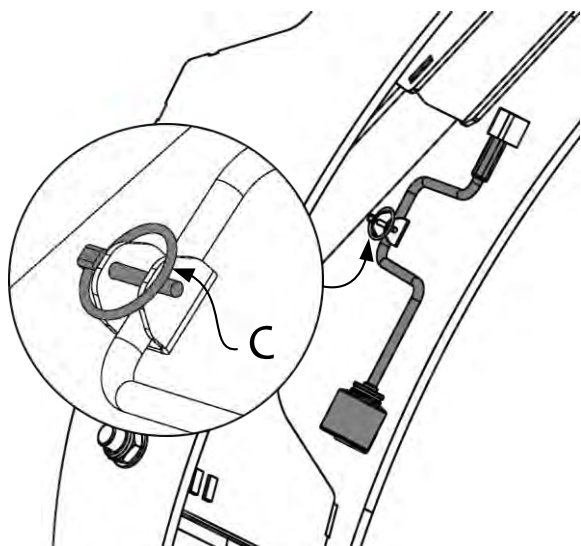

Fig. 2
2. Remove the cotter pin (see detailed picture in Fig. 2) from the adjusting crank (C)
3. remove the adjusting crank (C) from the device (Fig. 2)
4. Turn the locking flap (D) upwards on the adjusting screw (E)